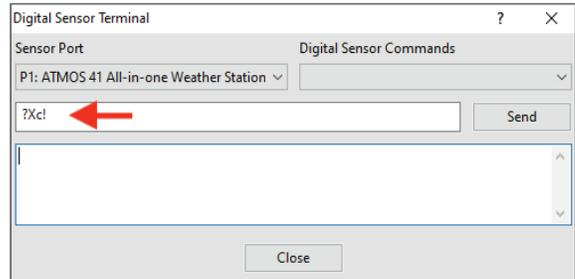

Figure 24 ?Xc! command to verify CAL Factor, entered
- Enter the **?Xc!** command in the prompt field to verify the CAL Factor value was entered correctly (Figure 24).